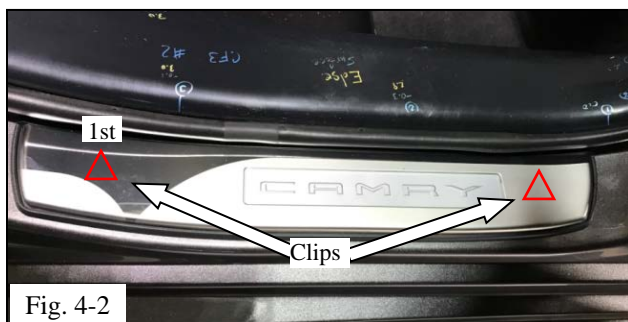

Fig. 4-2
NOTE: (b) Line up the 2 clips with the mounting holes in the body. **Gently** push the door scuff plate down to insert the clips (Fig. 4-2).
- (1) Ensure the clip that is denoted as 1st on Fig 4-2 is aligned and clipped into the rocker panel prior to engaging the second clip.